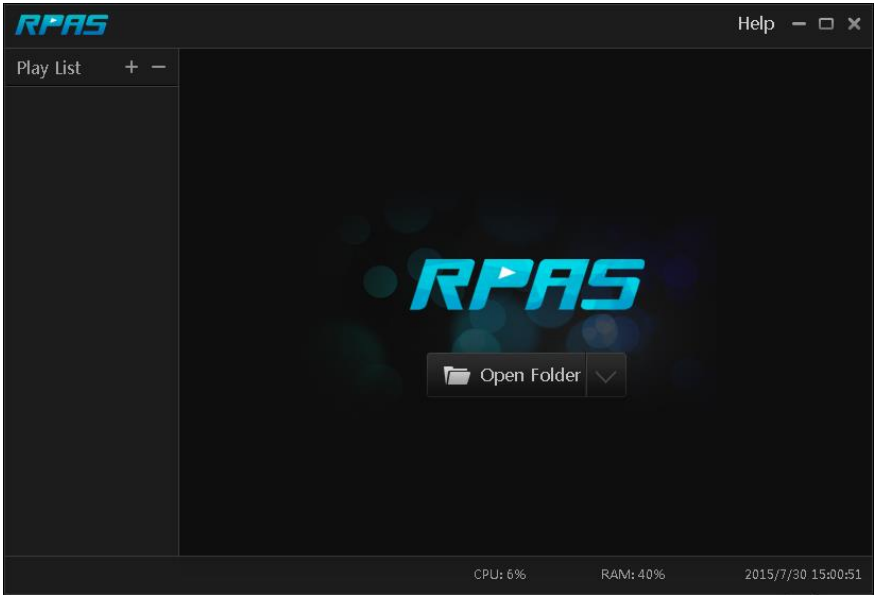

Fig 11-1
- If you made the backup by private format, the device will create a RPAS package along with the backup data. Extract the “RPAS.zip” and click “RPAS.exe” to set up RPAS. After the setup is completed, open the RPAS player and click “Open Folder” button to select the record data. Refer to Fig 11-1.